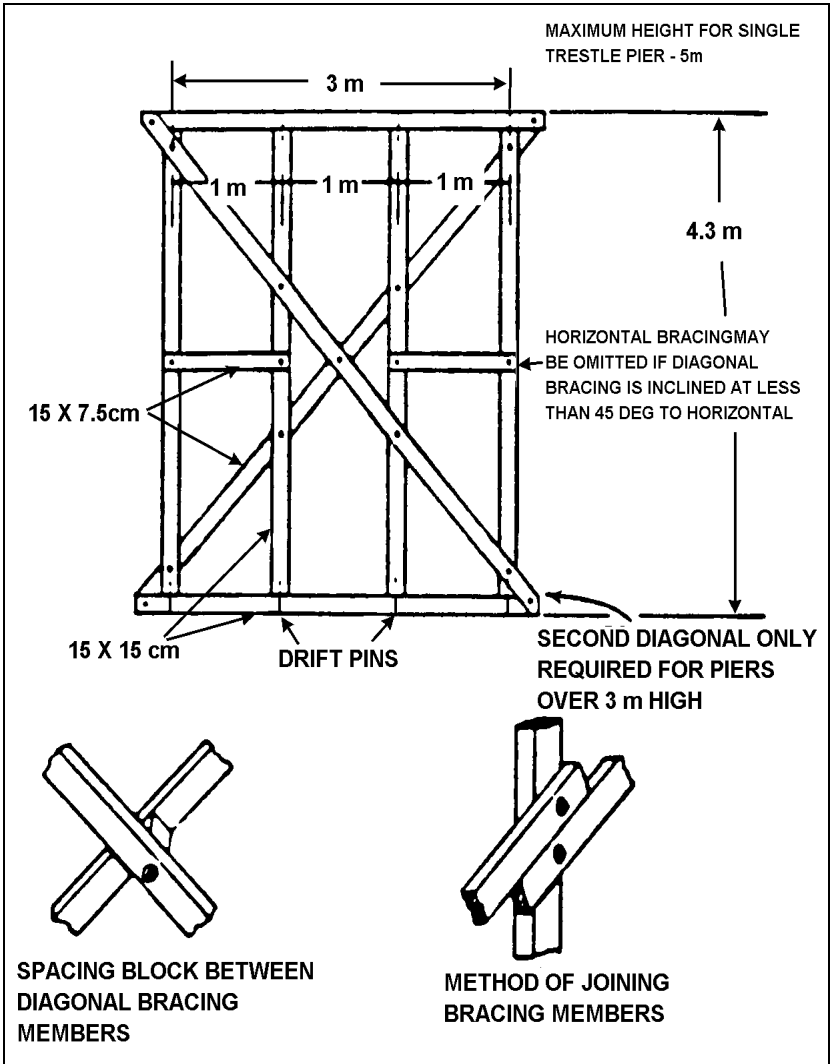

Fig 14-2-4 Example Framed Timber Trestle
5. **Timber Trestle Piers.** Trestle piers may consist of one or two bents as illustrated in Fig 14-2-4 and 14-2-6. These designs are even bearing for the groundsills and in preventing scour. For use in midstream, a common form of construction is to use piles for the foundation and to cap them just above water level, then the trestle pier is erected on the capsills.